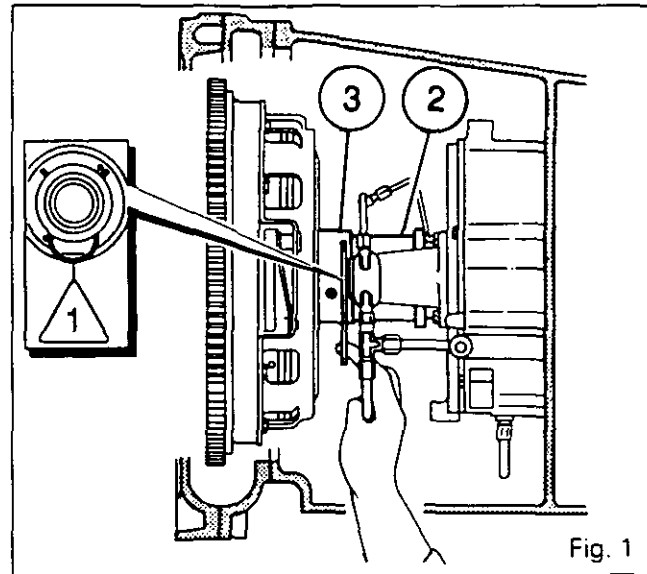

Fig. 1
4. **Remove the pin /1\ connecting the release bearing carrier (2) and the cover (3) (Fig.1).**